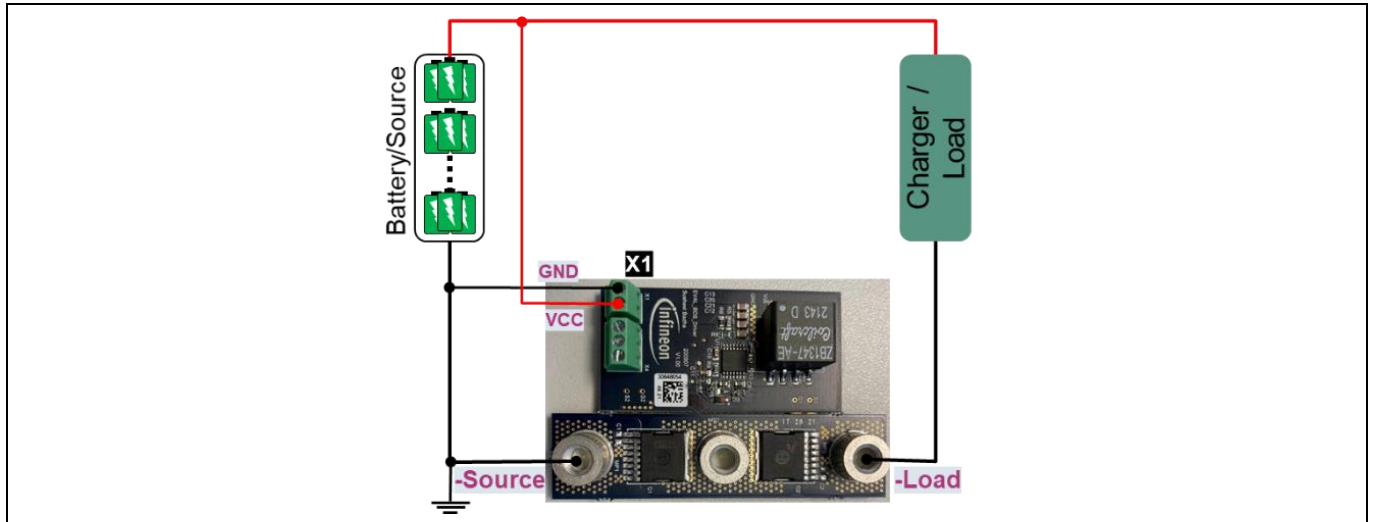

Figure 10 Powering the gate driver board with battery/source
1. **Battery or source:** As shown in **Figure 10**, connect pin 2 of the X1 connector on the gate driver board with the battery positive terminal and pin 1 to the battery negative terminal.